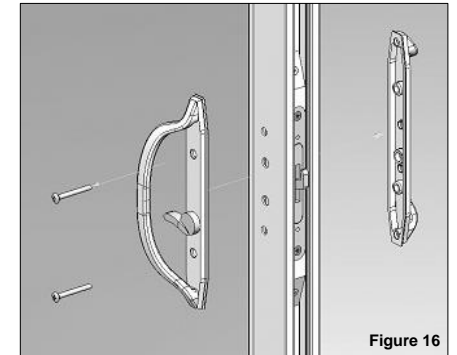

Figure 16
14. Install the exterior and interior handles in the panel with the two #10 - 2" white screws. Make sure that the latch operates properly before tightening the screws (Figure 16).